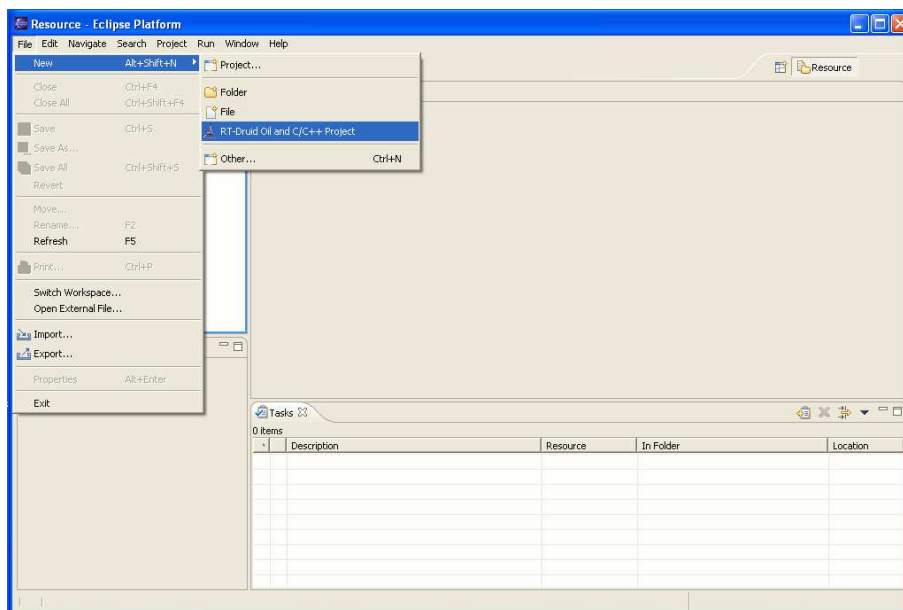

Figure 4.1: Select “New project” from the “File” menu.
1. Please select “New Project”, then “RT-Druid Oil and c/c++ Project” from the “File menu”, as in Figure 4.1.